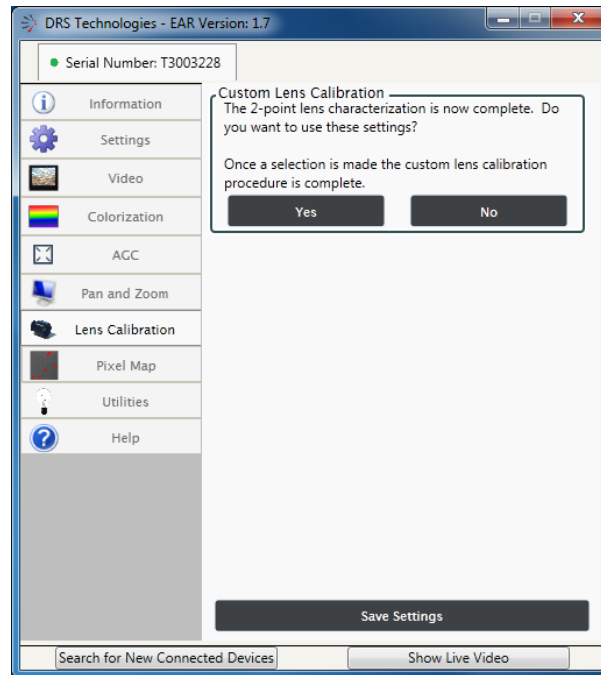

Figure 43: Save Settings
10. Once the calculations are complete, the lens calibration settings are immediately applied to the camera video output. The user is prompted to use or discard the settings by answering “Yes” or “No,” see Figure 43. If the user selects yes, the lens settings are saved in non-volatile memory; power cycling the camera is not required.